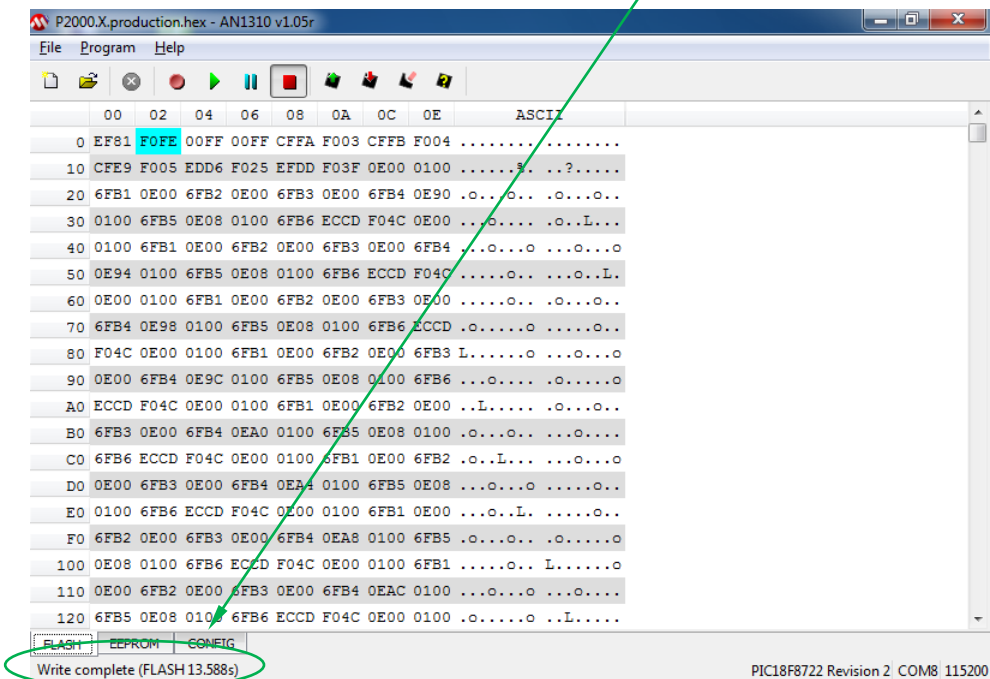

Figure 3.20
- The bootloader software will replace the old firmware in the SP-2000 board with the new one. The bottom status bar will indicate "Write complete" when this step is completed (*Figure 3.20*).